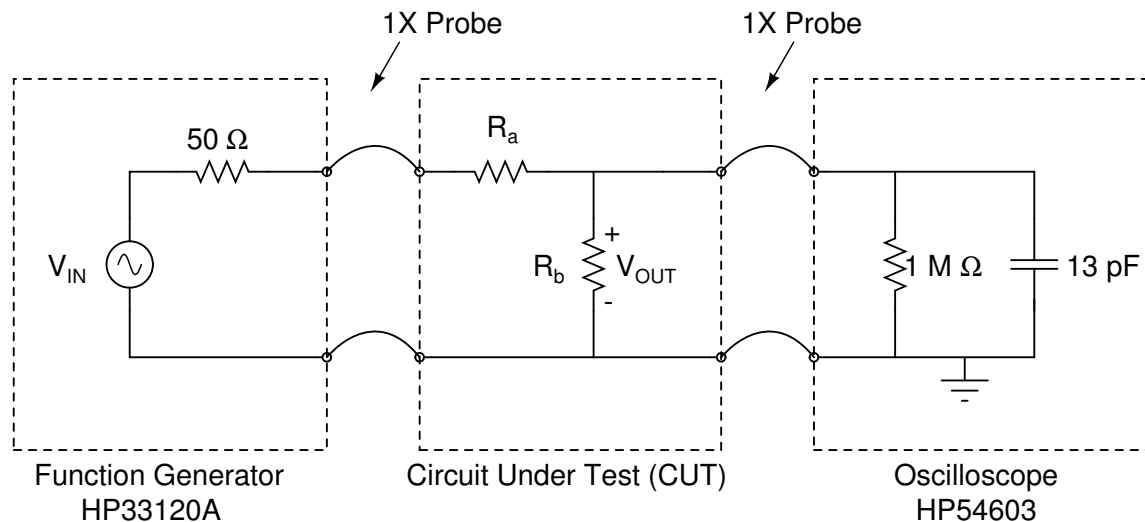
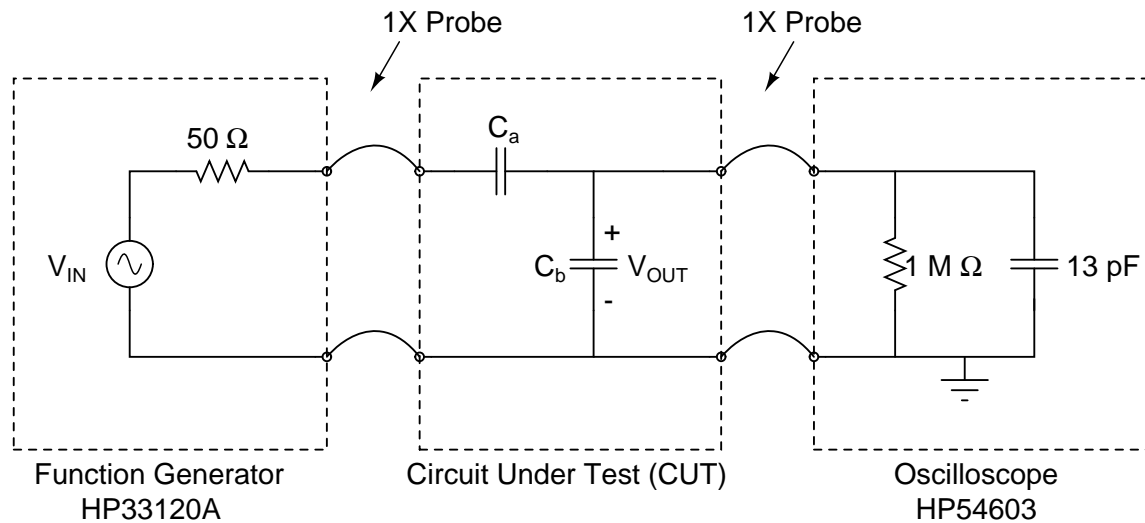

Figure 1: Test set-up and resistor divider circuit for Lab #1.
Figure 2: Test set-up and capacitor divider circuit for Lab #1.
Introduction In this lab you are to determine the voltage ratio, V_{OUT}/V_{IN} , produced by the voltage divider with resistors R_a and R_b shown in Figure 1, and with capacitors C_a and C_b shown in Figure 2.
1. Use the Tenma 72-1025 LCR Meter to measure the capacitance of your 1X probes at a frequency of 1kHz. Also measure the Dissipation Factor (D) of the probes at a frequency of 1kHz.
4. Set the FG to generate a 1kHz sinusoidal signal with peak voltage $V_{IN} = 1V$. Verify both the frequency and peak voltage using the scope then connect the FG and scope to the resistors R_a and R_b as shown in Figure 1.
- Set the FG to generate a 1kHz sinusoidal signal with peak voltage $V_{IN} = 1\text{V}$ and connect the FG and scope as shown in Figure 2.